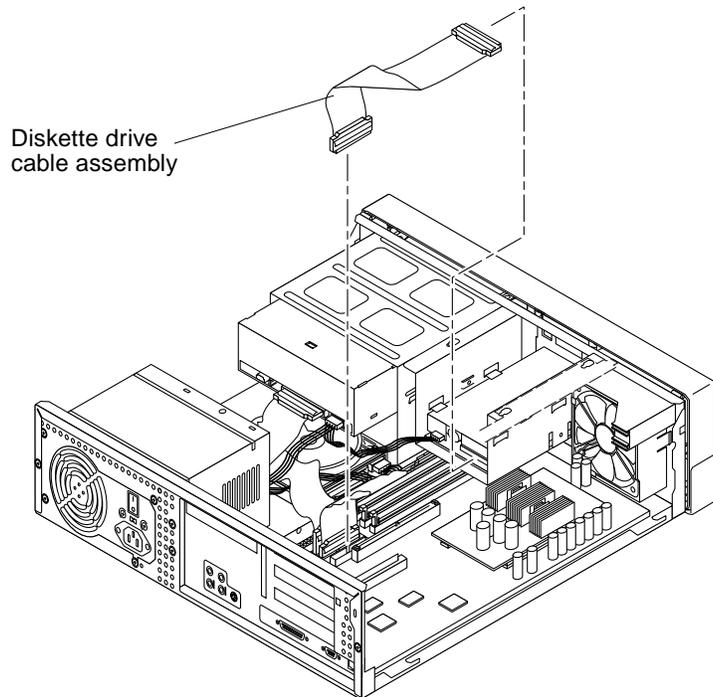

FIGURE 6-2 Removing and Replacing the Diskette Drive Cable Assembly
2. **Remove the diskette drive cable assembly connectors from the following (FIGURE 6-2):**
1. Replace the diskette drive cable assembly as follows (FIGURE 6-2):